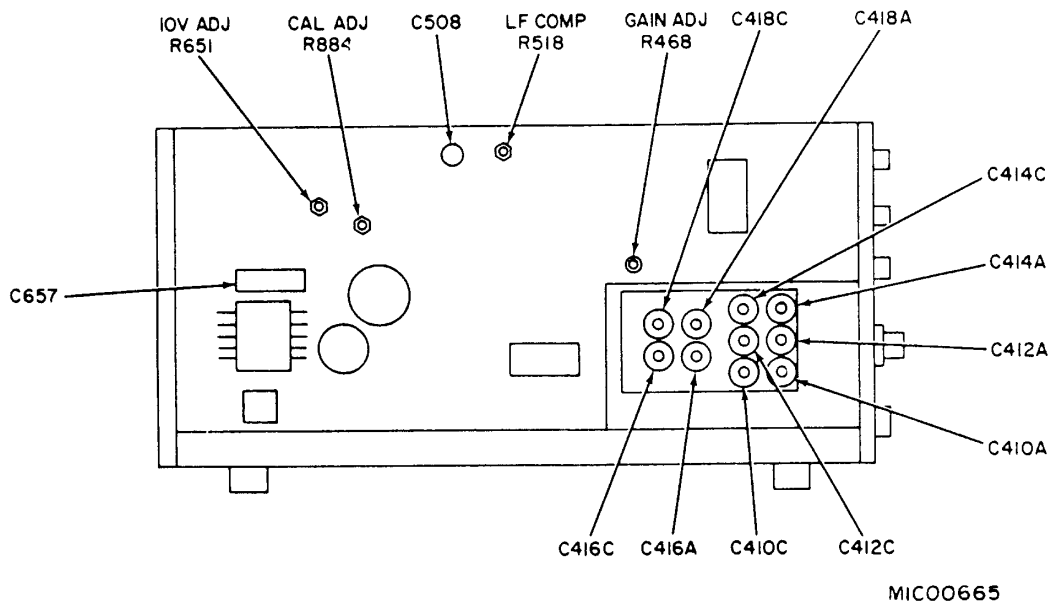
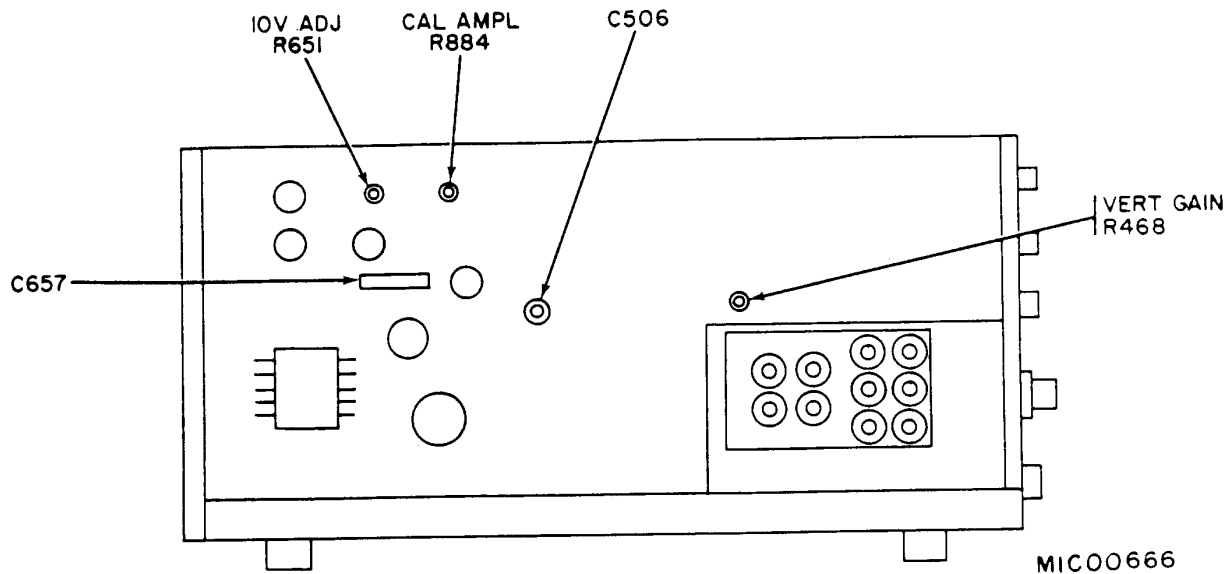

Figure 1. Oscilloscope – left interior view (Type 321).
Figure 2. Oscilloscope – left interior view (Type 321A).
- (1) Set oscilloscope calibrator to **.5 V** output and adjust TI controls for 5 divisions of vertical deflection.
- (2) Disconnect cable from oscilloscope calibrator and connect to **CAL OUT 500 MV** jack on TI. Adjust CAL ADJ R884 (fig. 1), (CAL AMPL R884, fig. 2) for 5 divisions of vertical deflection on TI (R).
- (1) Set oscilloscope calibrator for **VOLTS OUT** of .04 V.
- (2) Adjust GAIN ADJ R468 (fig. 1) (VERT GAIN R468, fig. 2) for 4 divisions on TI.
- (1) Connect oscilloscope calibrator **+FAST RISE** output to **INPUT**, using 20 dB attenuator and 50Ω termination.
- (2) Set oscilloscope calibrator **TRIGGER PULSE PERIOD** switch to **10 μS**, and adjust **FAST RISE VARIABLE** to minimum.
- (3) Set **VOLTS/DIV** switch to **.01** and **TIME/DIV** switch to **2 μSEC**.
- (4) Adjust **FAST RISE VARIABLE** control for a 4-division display on TI. Adjust **LEVEL** control for a triggered display. If display does not display square corners and flat tops, perform **b** below.
b. Adjustments. Adjust C508 (fig. 1) (C506, fig. 2) for optimum square waves on TI.
(5) If TI does not display optimum square wave with square corners and flat tops, adjust standardizer for best square wave display.
(6) Set **VOLTS/DIV** switch to **.02** and repeat (3) and (4) above. If TI does not display square corners and flat tops, perform **b** below.
(7) Repeat technique of (6) above using settings listed in table 4. If TI does not display optimum square waves for each **VOLTS/DIV** switch setting, perform adjustments listed in table 4.
b. Adjustments. Adjust C418A (fig. 1) for best flat tops and C418C (fig. 1) for best square corners (R).
Test instrument VOLTS/DIV switch settings	Adjustments ¹ (fig. 1)
(1) Set **TRIGGERING LEVEL** control to **FREE RUN.**
(2) Set **VOLTS/DIV** switch to **.5** and adjust **VERTICAL POSITION** control to position trace to second horizontal graticule line from bottom.
- (3) Connect oscilloscope calibrator **VOLTS OUT** to **INPUT**.
- (4) Adjust oscilloscope calibrator for dc output to position trace at top graticule line.
- (5) While observing display, alternately connect and disconnect oscilloscope calibrator. If TI displays a vertical drift as trace comes to rest in each position, perform **b** below.
b. Adjustments. Repeat **a(5)** above and adjust LF COMP R518 (fig. 1) until no vertical drift of trace is observed in either position (R).